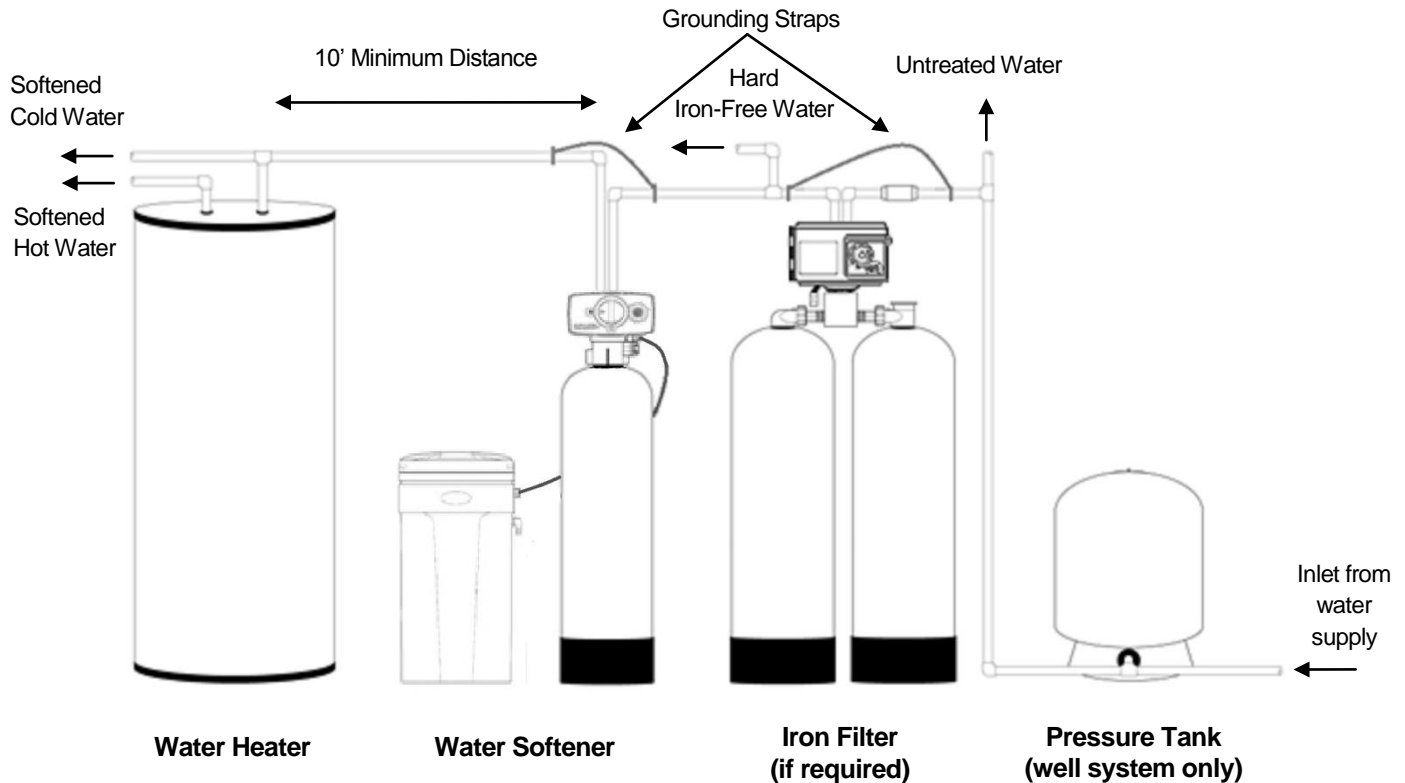

FIGURE 1: Typical Installation
6. Appliances requiring extended periods of continuous or high flow water use (i.e. geothermal heat pumps, swimming pools, lawn irrigation, outside hose bibs, etc.) should bypass the water softener. (see installation diagram Fig. 1).
7. Ground straps (shown in Figure 1) are only necessary when the home's electrical system utilizes the metal piping as the systems ground. To maintain the ground jumper wiring must be installed around non-metal connectors or pipe (plastic) if it is used for softener installation.